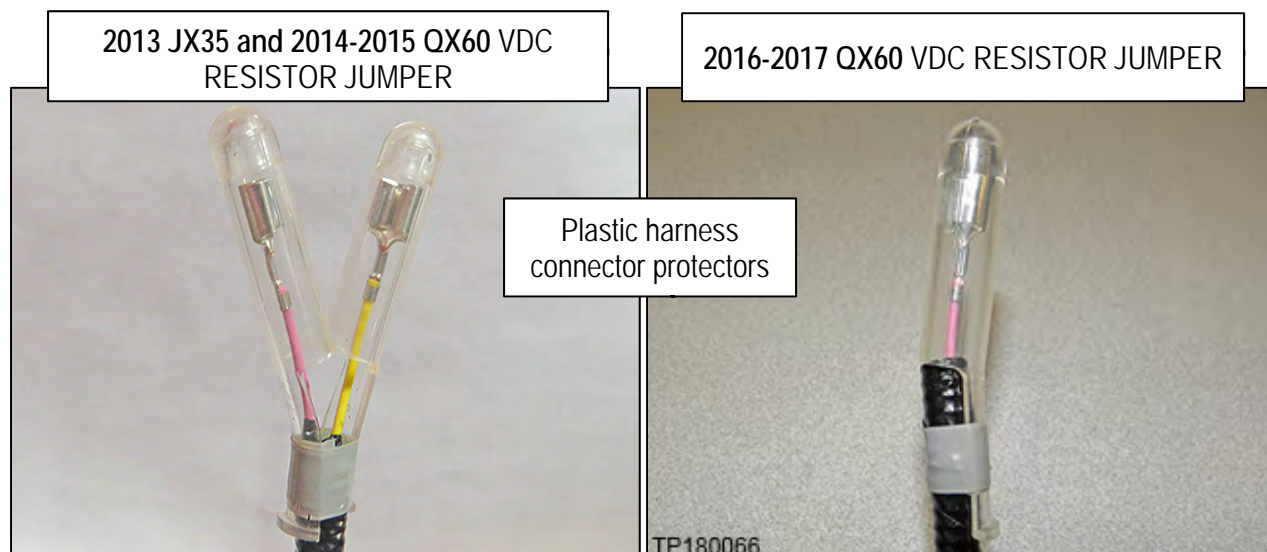

Figure 49
55. Remove any remaining plastic harness connector protector(s) from the jumper harness (Figure 49).